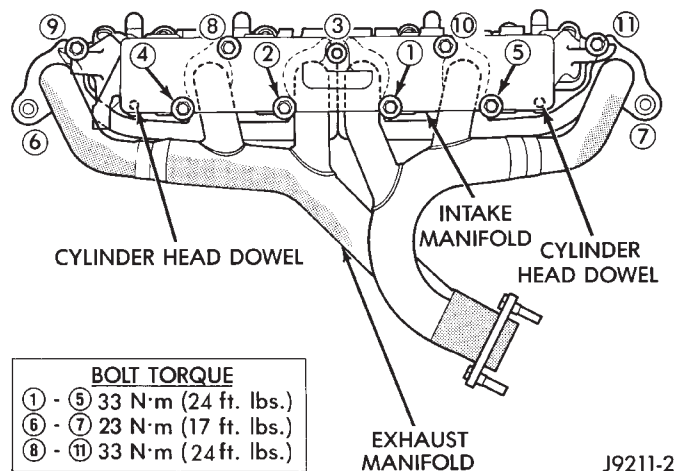

Fig. 10 Engine Exhaust/Intake Manifold
- (1) Install a new engine exhaust/intake manifold gasket over the alignment dowels on the cylinder head.
- (2) Position the engine exhaust manifold to the cylinder head. Install fastener Number 3 and finger tighten at this time (Fig. 10).
- (3) Install intake manifold on the cylinder head dowels.
- (4) Install washer and fastener Numbers 1, 2, 4, 5, 8, 9, 10 and 11 (Fig. 10).
- (5) Install washer and fastener Numbers 6 and 7 (Fig. 10).
- (6) Tighten the fasteners in sequence and to the specified torque (Fig. 10).
- (7) Install the fuel rail and injectors (refer to Group 14, Fuel System).
- (8) Install the power steering pump and bracket to the intake manifold. Tighten the belt to specification (refer to Group 7, Cooling System for the proper procedures).
- (9) Install the fuel system supply and return lines to the fuel rail assembly. **Before connecting the fuel system lines to the fuel rail replace the O-rings in the quick-connect fuel line cou-**